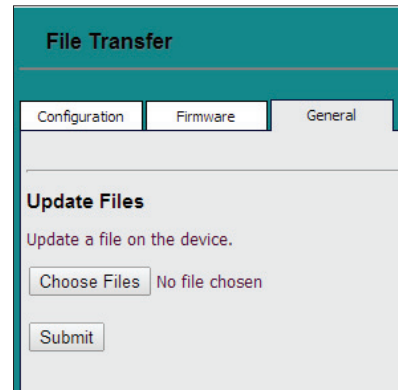

Figure 14: File Transfer - General Tab
4.) Refer to the *File Transfer Window* below (Figure 14). In the *General Tab*, click **<Browse>** and locate the file you saved in Step 1. Then click on **<Submit>**. When the download is complete, click on the **<System Restart>** button.